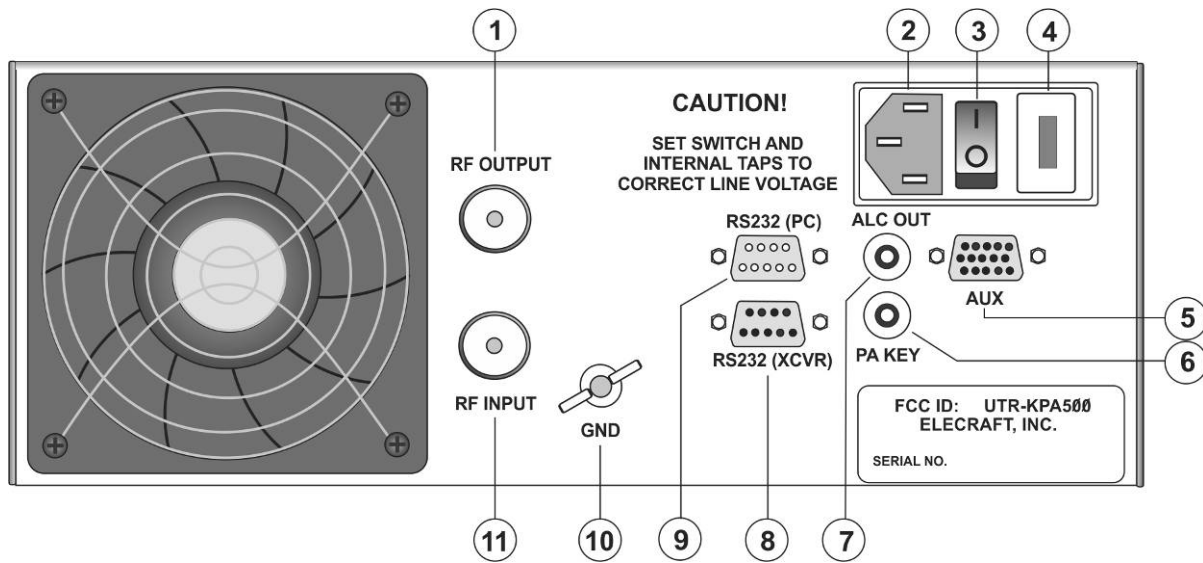

Figure 1. KPA 500 Rear Panel
The KPA500 rear panel is shown in Figure 1. The connectors and controls are described following the figure.
**⚠ Always turn the amplifier off using the rear panel switch (③ in Figure 1) before attaching or removing cables.**
1. Ensure a suitable 50 ohm load is attached to the RF OUTPUT connector on the rear panel (Figure 1, ①). A dummy load is recommended for initial tests.
2. Enable the power supply by pressing the rear panel rocker switch (Figure 1, ③) to the On (I) position.